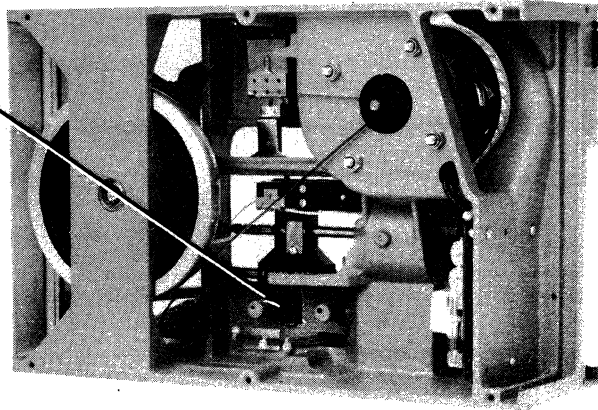

Figure 7-21. Track Optical Switch Assembly
- b. Manually move head carriage to clear positioning slide from Track Optical Switch assembly (Figure 7-21).
Track Optical Switch Assembly Replacement (Figure 7-21)